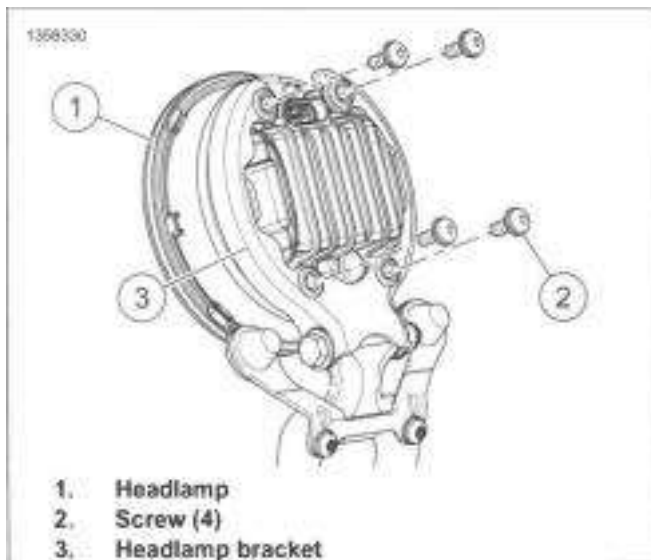

Figure 7-42. Headlamp Screws
3. See Figure 7-42. Remove screws (2).
4. Remove headlamp (1).
1. See Figure 7-42. Position headlamp (1).
2. Install screws (2). Tighten.